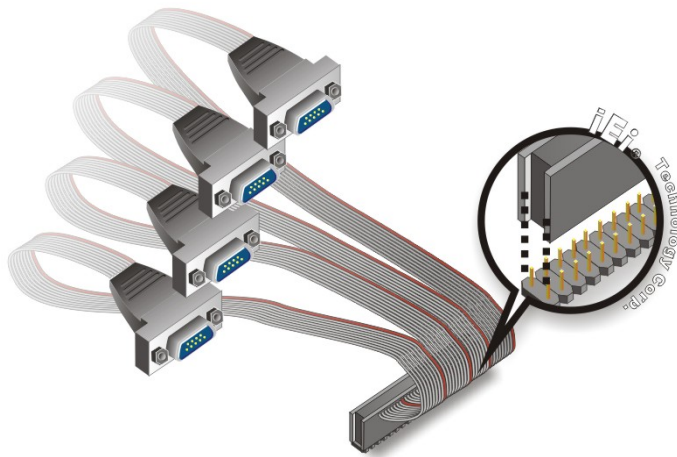

Figure 4-12: Four Serial Port Connector
- Step 2:** **Insert the cable connector.** Align the cable connector with the onboard connector. Make sure pin 1 on the board and connector line up **Figure 4-12**.